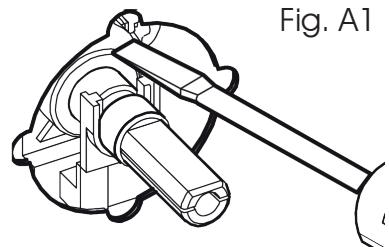

Fig. A1
2. Remove the knob of the corresponding gas tap and insert a screwdriver in the end part of the tap or in the screw (fig. A1,A2, C2 DUAL).